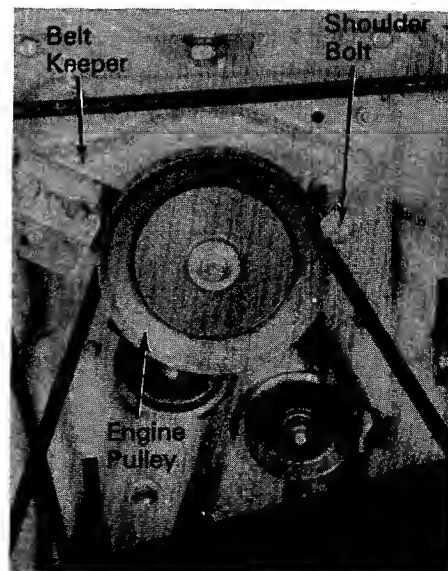

FIGURE 21
2. Remove the belt keeper and shoulder bolt on the engine pulley. See figure 21.